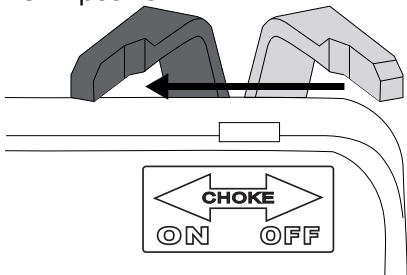

Figure 11 - Choke Lever - ON
8. Move the choke lever to the **ON** position for cold starting (see Figure 11 below). If warm starting leave choke in **OFF** position. .
- Move the choke to the **ON** position (see Figure 11).